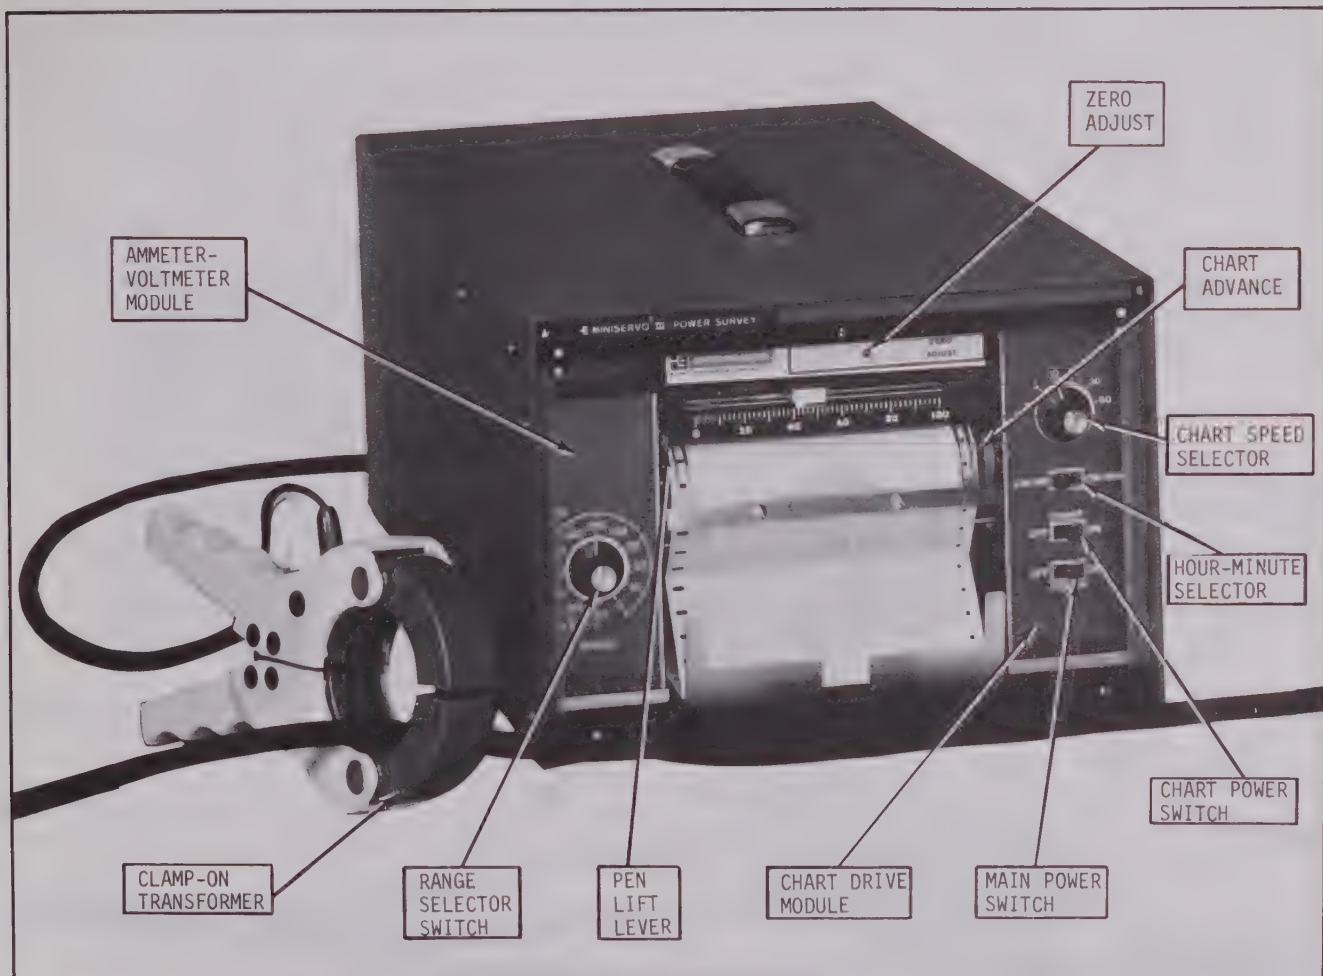
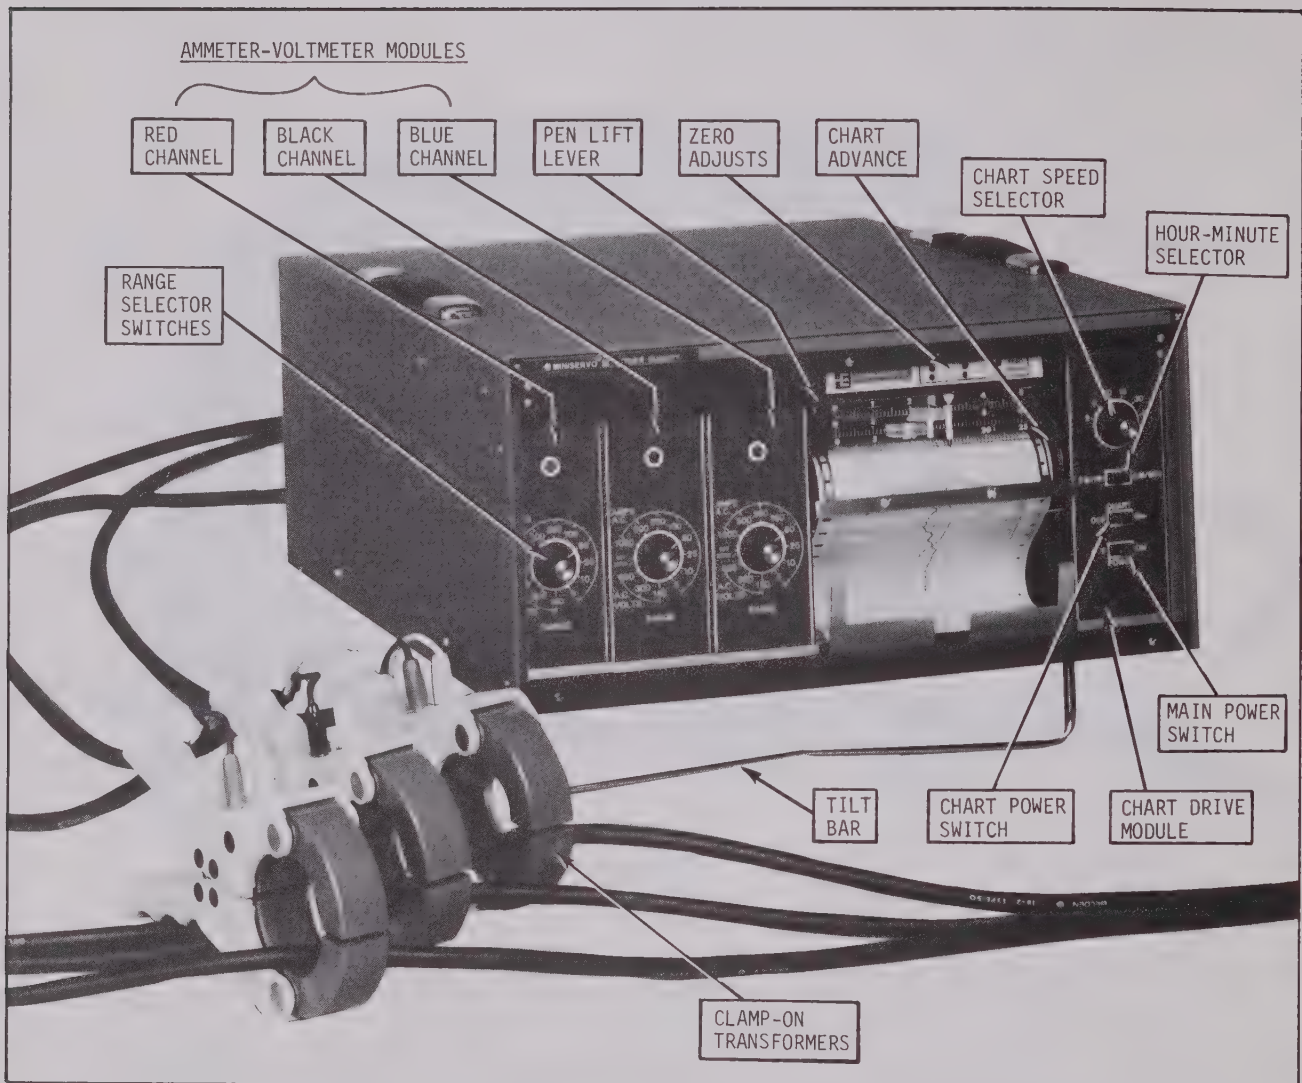

Figure 1-1. Single-Pen Power Recorder Model MS411B (Stock No. S-22907-1).
Figure 1-2. Three-Pen Power Recorder Model MS413B (Stock No. S-22906-1).
b. The one-pen servo recorder shown in Figure 1-1 is identified as Model MS411B (Specification No. S-22907-1), and it is primarily used to continuously record either AC current or AC voltage in single-phase power circuits. The three-pen recorder (Figure 1-2) is identified as Model MS413B (Specification No.
Described in this section are operating controls for the single- and three-pen Miniservos. Operation of models MS411B (Fig. 1-1), and MS413B (Fig. 1-2), are essentially the same unless otherwise stated. Both recorders include a multispeed Chart Drive Module; the single-pen unit has one multirange Ammeter/Voltmeter Module, while the three-pen unit has three Ammeter/Voltmeter Modules. Basic control functions of these modules are described in the following paragraphs: